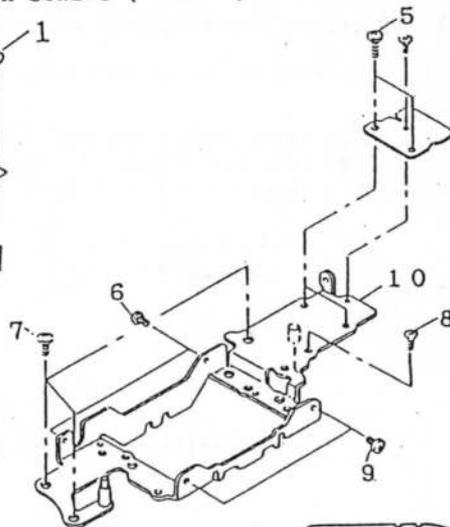

Fig.13
- (1) Take off two SCREWS (No.1) and remove two SPRINGS (No.2), then remove the FLCD U (No.3)
10. Prism (Fig.13)